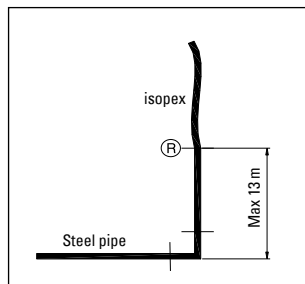

fig. 4
- When connecting isopex to steel pipes which are not fixated, the rules shown in fig. 4 must be observed.